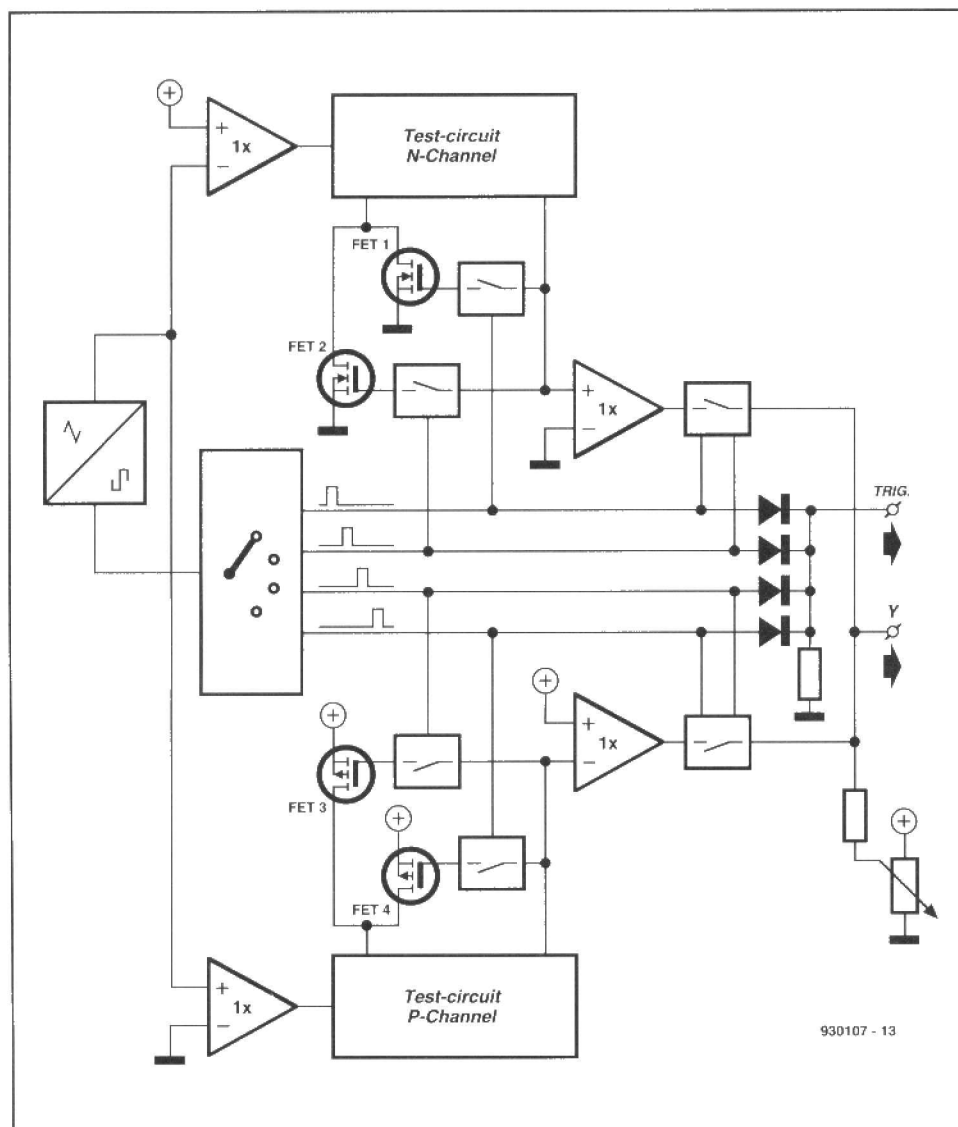

Fig. 2. Block schematic diagram of the power MOSFET tester.
**Figure 2** shows the basic design of the tester. The tester is driven by a generator that provides rectangular as well as triangular waveforms. The rectangular signal controls an electronic switch which switches the four FETs in turn ON for 1 ms and OFF for 99 ms. Since the devices are on for only  $1/100$  of the time, they may be tested without a heat sink, even when they draw an average current of 10 A (13 A peak).
Circuit IC3 has more positions than the electronic switch in Fig. 2; there are also more of these switches. This is because, after testing, the gate of each FET